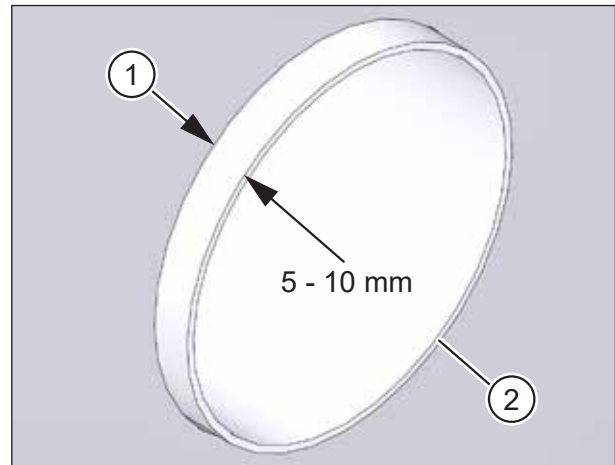

Fig. 10: Checking the ventilation pipes
- ▶ Check that the ventilation pipes protrude 5 - 10 mm beyond the external plaster (see item 1 in Fig. 10).
- ▶ Check that the cut surfaces of the ventilation pipes have been deburred (see item 2 in Fig. 10).